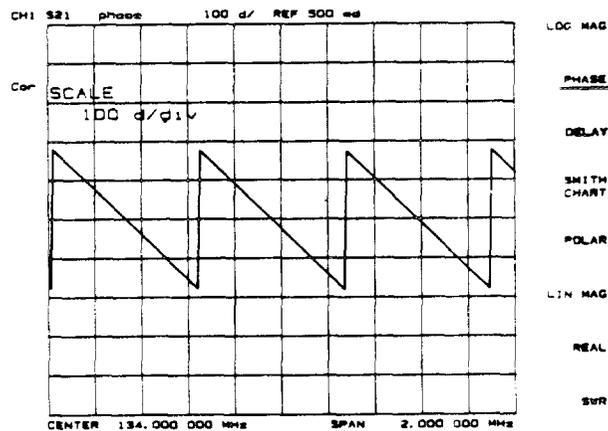

Figure 4-11. Phase Format
**[PHASE]** (PHAS) displays a Cartesian format of the phase portion of the data, measured in degrees. This format displays the phase shift versus frequency. Figure 4-11 illustrates the phase response of the same filter in a phase-only format. A measurement of phase response is described in the *User's Guide*.